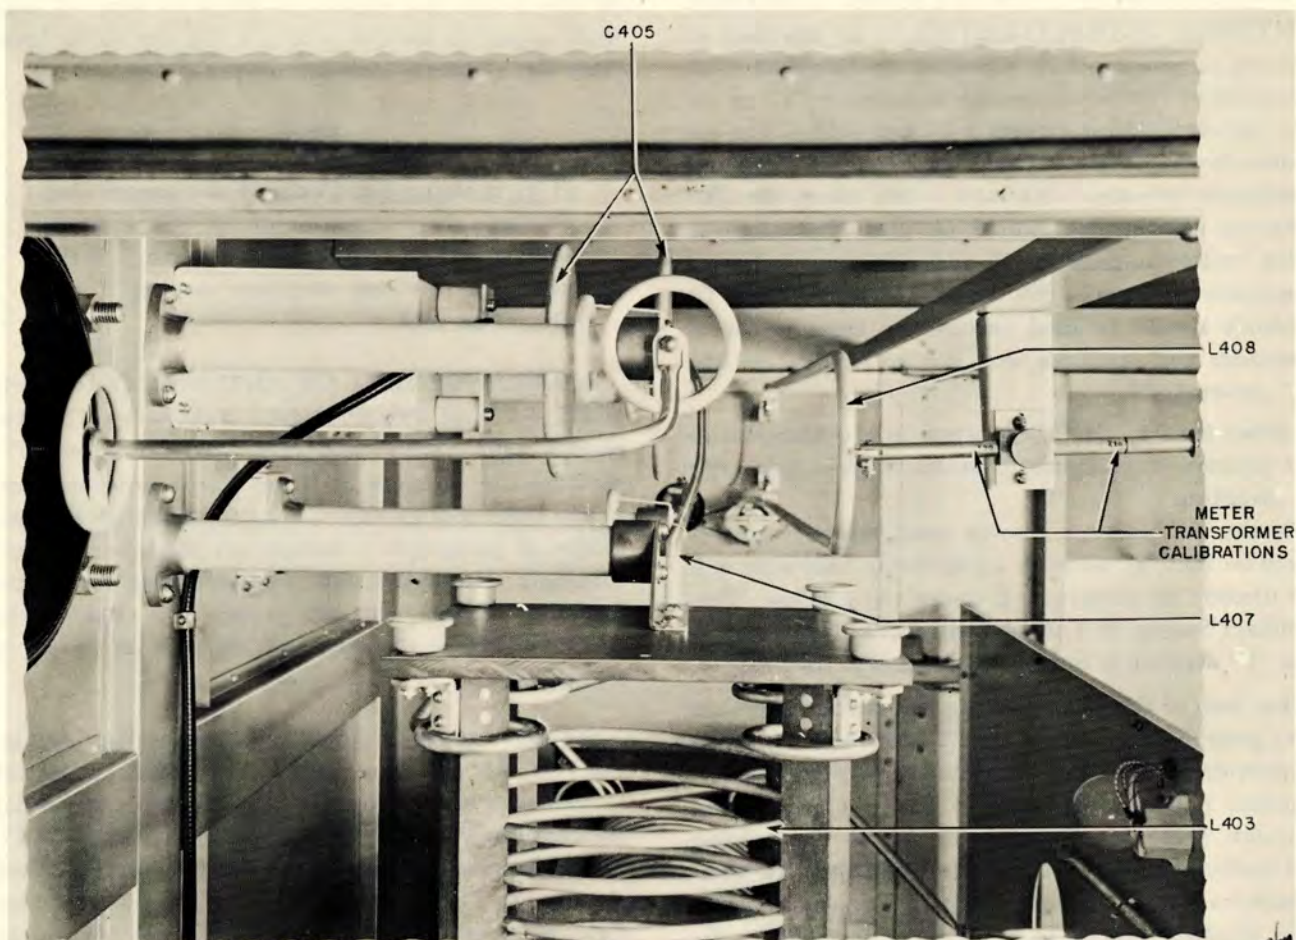

Figure 3-23. Details of Meter Transformer and Monitoring Pick-Up, Antenna Coupling Unit
Adjust the output-monitoring-pickup capacitor (C405) so that the plate spacing is approximately two inches. See figure 3-23.
(3) Turn the transmitter off. Open the rear right door of the coupling unit and adjust LINK 2 to connect the antenna network. Reclose the door.
(4) Turn the transmitter on. If the coupling network is too far out of adjustment, arcing may occur in the output circuit of the transmitter because of the improper load. Under these circumstances, reduce the setting of the HIGH VOLTAGE control (T101) on the transmitter until the transmitter will operate without arcing.
(5) Note the reading on the coupling unit ANTENNA meter (M402). Change the B-ANTENNA TUNING control in a series of 20-division increments in both directions, and at each incremental setting of B, tune the A-ANTENNA TUNING control for maximum ANTENNA current. Find the combination which gives maximum ANTENNA current.
(6) If the transmitter HIGH VOLTAGE has been reduced, restore it to normal.
(7) Adjust the settings of A and B, as necessary, to make the LINE currents at the transmitter and at the coupling unit essentially the same as they were in step (2).
i. MONITOR OSCILLOSCOPE PICK-UP ADJUSTMENT. — The amplitude of the pulse on the transmitter monitoring oscilloscope with the MONITORED CIRCUIT switch in the ANT (RF) position is adjustable by means of capacitor C405 (figure 3-23) in the Antenna Coupling Unit. A pulse amplitude of about 25 divisions on the oscilloscope face for the upper half of the oscillogram should be obtained when the VERTICAL DEFLECTION control is set for maximum. Adjust capacitor C405, if necessary, to obtain this condition. Increasing the plate spacing of C405 will decrease the oscilloscope signal and vice versa. Make certain the transmitter is off when going into the coupling unit to make an adjustment. Ground LINK 1 with the capacitor-discharge rod as an added safety precaution.
Two marks have been placed on the slider arm, attached to each hair-pin secondary, which adjusts the transformer spacing. In the case of the ANTENNA meter, the mark which corresponds to the greater spacing effects a step-down ratio of 20; this is set at the factory. If it is necessary to reduce the ratio to 10, the holding screw should be loosened and the slider arm moved so that the mark corresponding to a smaller spacing lines up with the side of the holding block that is nearer the hair-pin loop. Figure 3-23 shows the details of this assembly.